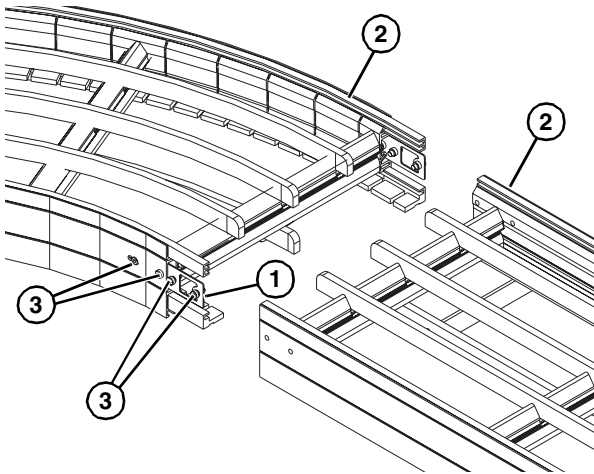

Figure 10
Typical Curve Connecting Components (Figure 10)
2. Install two clamp plates (Figure 10, item 1) into one conveyor section (Figure 10, item 2) by lining up two holes in clamp plate with two holes in conveyor frame. Install two M8x16 low head cap screws (Figure 10, item 3) to secure each clamp plate.
3. Join both conveyor sections, and secure with two M8x16 low head cap screws (Figure 10, item 3) on both sides. Tighten all cap screws to 84 in-lb (9 Nm).